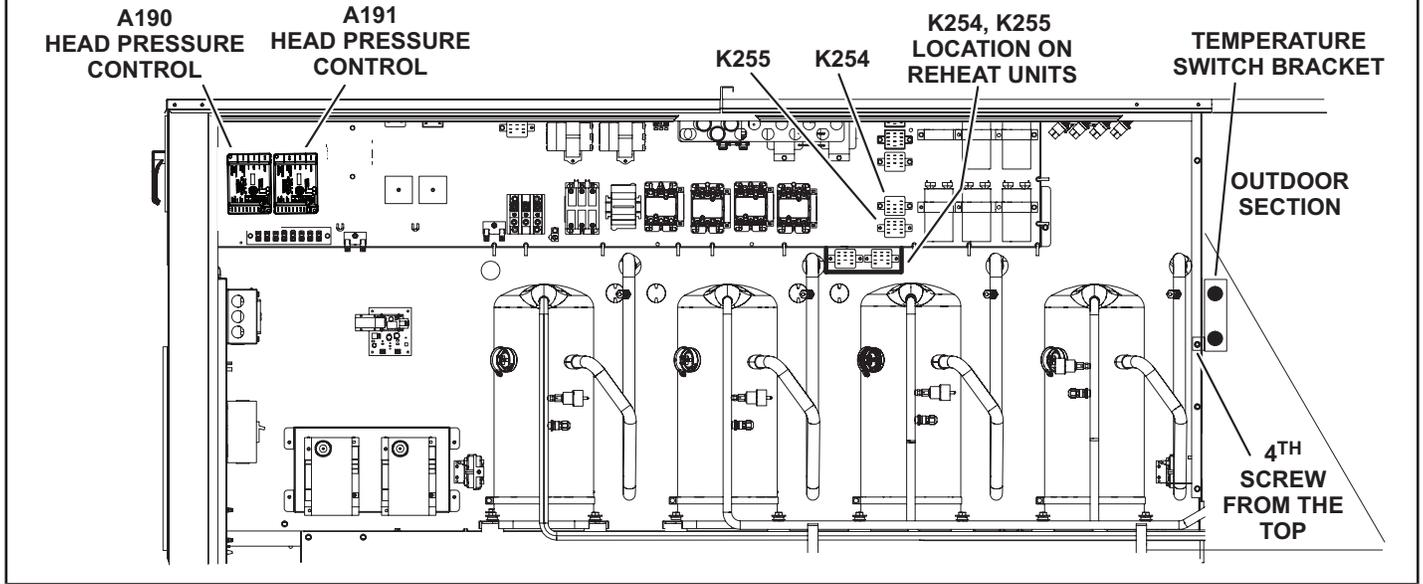

FIGURE 1
- 2 - Install head pressure controls (A190 & A191) in the control section as shown in FIGURE 1. Secure with screws (provided).
- 3 - Install the temperature switch mounting bracket onto the mullion. Align the bracket with the 4th screw from the top of the unit; secure with provided screw. See FIGURE 1.
Note - K254 and K255 relay location is different for reheat units as shown in figure 1.